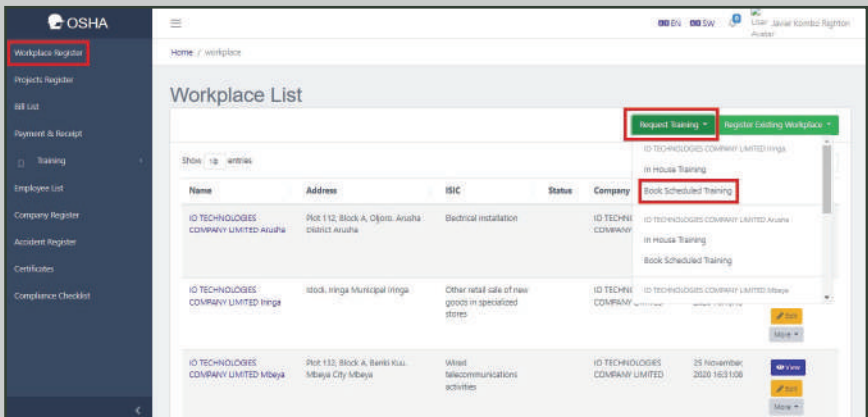

Figure 36: Accessing inhouse training page
- i) Click on Workplace Register to access menu to request for In-house training. Click on Request Training button and choose In House Training option to book for training as shown on Figure 36.